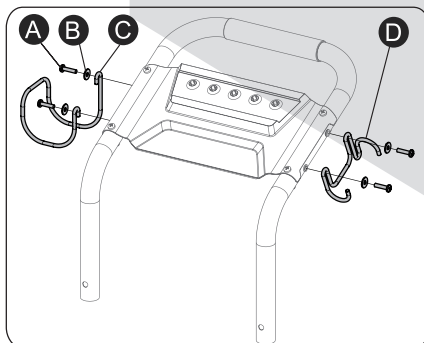

Fig 2
a. Install the High-pressure Hose holder (C) onto the left side of the upper handle using two M6x25 mm Phillip head screws (A) and two M6 flat washer (B). Hand tighten.
b. Install the Spray Gun holder (D) onto the right side of the upper handle using two M6x25 mm Phillip head screws (A) and two M6 flat washers (B). Hand tighten. Fig 2